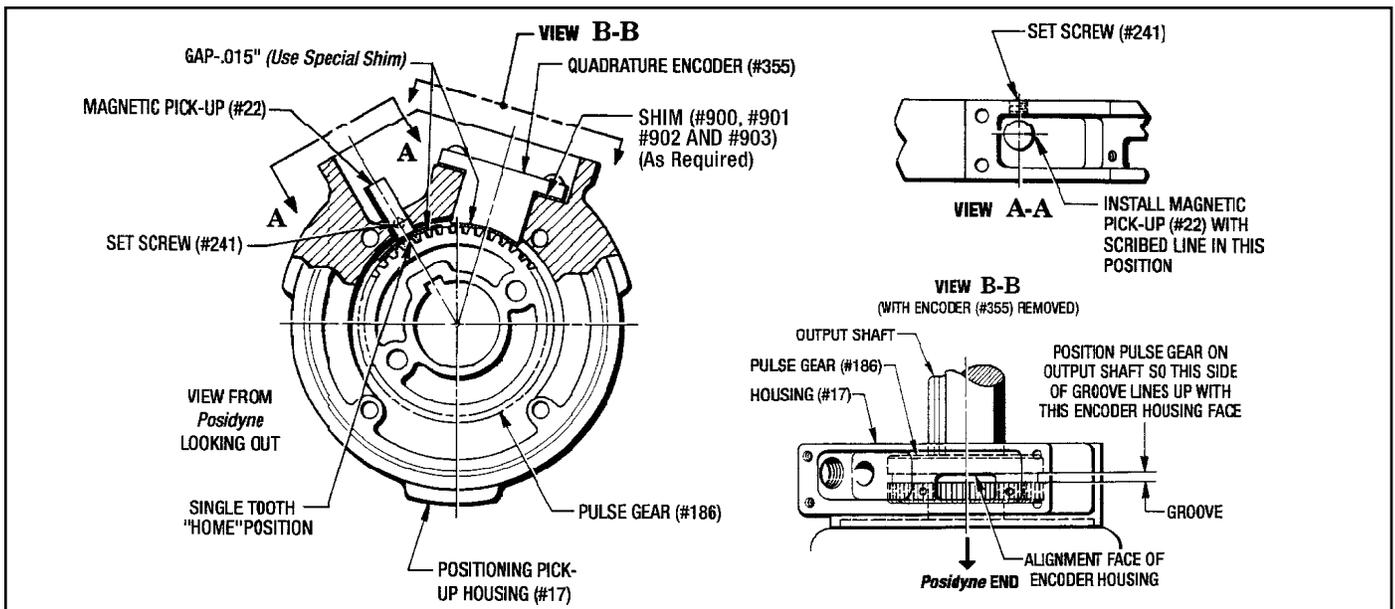

Figure 7.3 - Position Sensors Installation
(See Figure 7.3 and 8.4)
2. Attach the Encoder Housing (#17) to the output housing with (4) Screws (#76) and (4) Washers (#257).
3. Slide the Pulse Gear (#186) on to the output shaft, aligning the groove in the pulse gear with the alignment face of the encoder housing. (See Figure 7.3) Tighten Set Screw (#154).
A. Quadrature Encoder (See Figure 7.3)
3. Check the Gap between the Pulse Gear and the Encoder with the Special .015" Shim that you made. If necessary, remove the Encoder and place Shims (#214) under the Encoder. (Usually .015" is sufficient.) Re-attach the Encoder and re-check the Gap. (See Figure 7.3)
B. Magnetic Pick-Up Sensor (See Figure 7.3)
2. Insert the Magnetic Pick-Up Sensor (#22) into the hole with the **Scribed Line** in position as shown in Figure 7.3, View A-A.